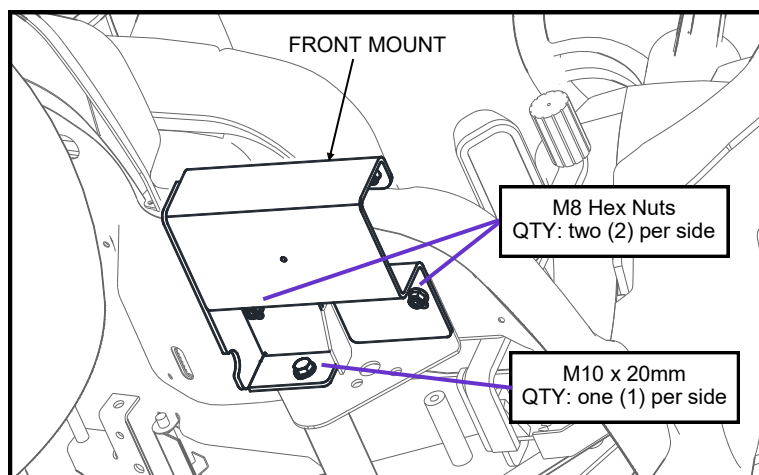

Fig. 1.4: Front Mounts (right side shown)
- 1.4 Per Figure 1.4, on each side of the vehicle remove and retain the two M8 nuts securing the fender to the frame and one M10 bolt securing the side strut to the frame. NOTE: the right side has one M10 bolt into a threaded hole in the frame; the left side has one M10 bolt and nut.